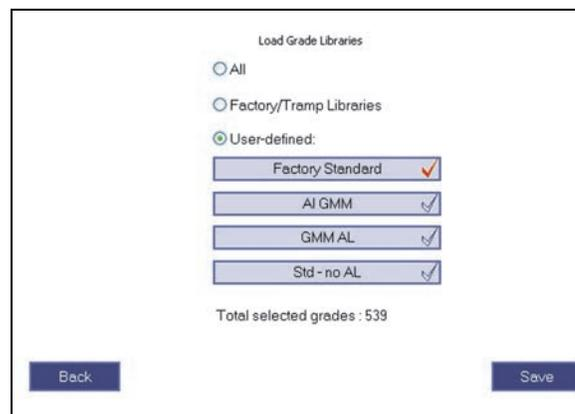

Figure 2-8 The Load Grade Libraries pane
1. In the **Grade Libraries** pane, click **Load Library** (see Figure 2-8 on page 54).
2. In the **Load Grade Libraries** area, select one of the following options (see Figure 2-8 on page 54):